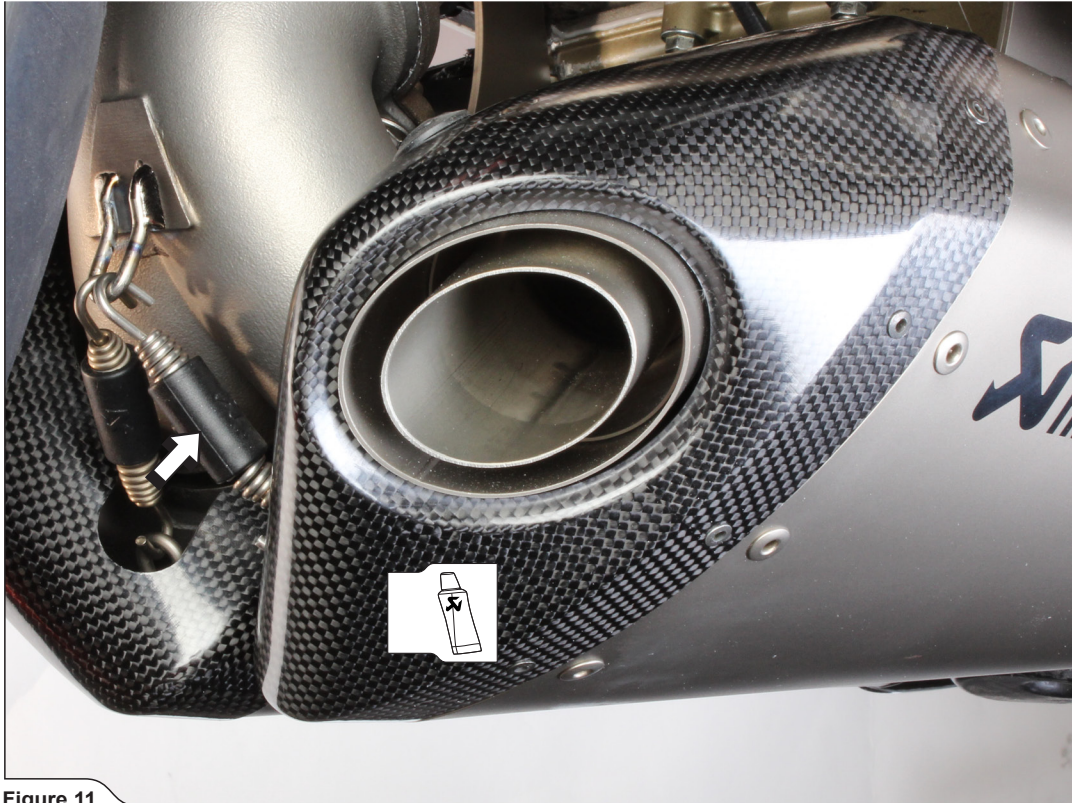

Figure 11
5. Assemble the right muffler onto the collector and attach the spring (Figure 11).